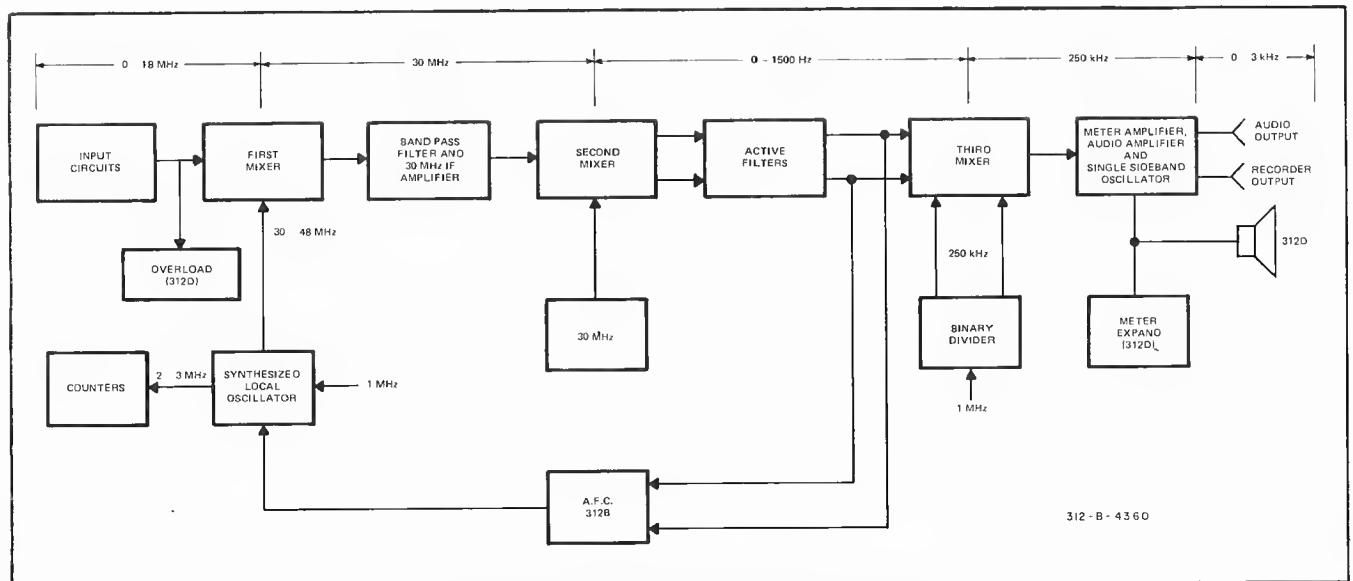

Figure 4-1. 312B/D Simplified Block Diagram.
4.6. Refer to Figure 4-1 for the following description.